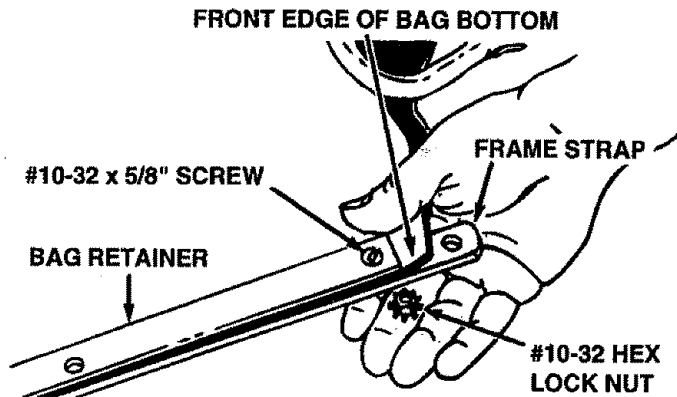

FIGURE 13
- Assemble the bag retainer and the bag frame strap to the front edge of the bag bottom. Place the bag retainer on top and the bag frame strap underneath the bag bottom. Fasten together using six #10 x 5/8" slotted screws and #10-32 hex lock nuts. See figure 13.